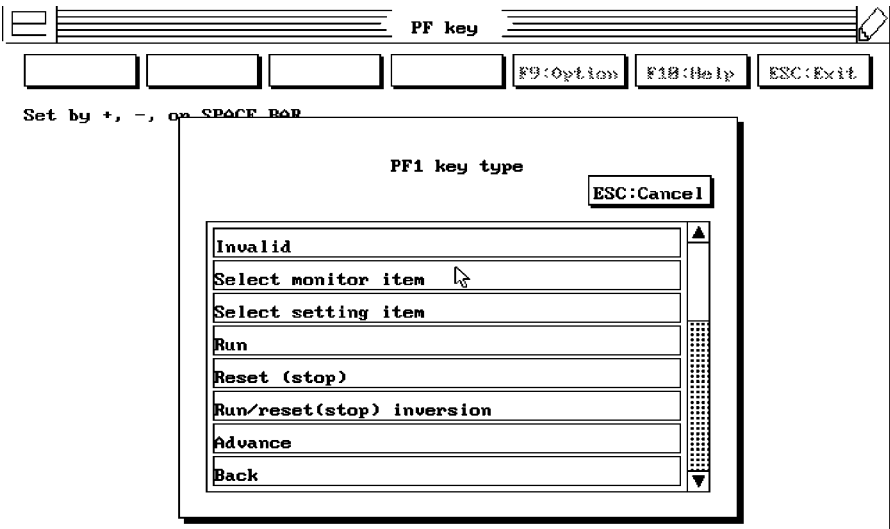

Figure 13
- 4. Select **Select monitor item** (Figure 13). The screen will disappear after selecting.